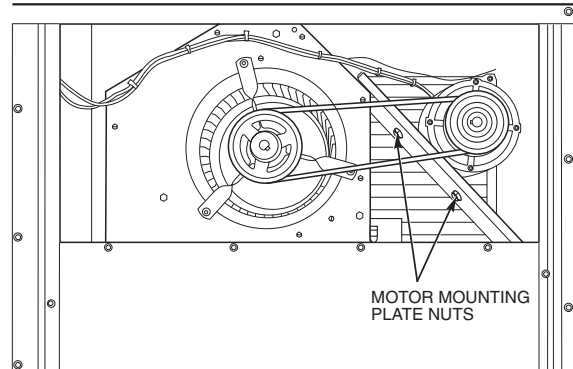

Fig. 41 — Belt Drive Motor Mounting
BELT-DRIVE MOTORS — Fan motor pulleys are factory set for speed shown in Table 1. See Fig. 41 for belt drive location.
2. Loosen belt by loosening fan motor mounting nuts. See Fig. 41.